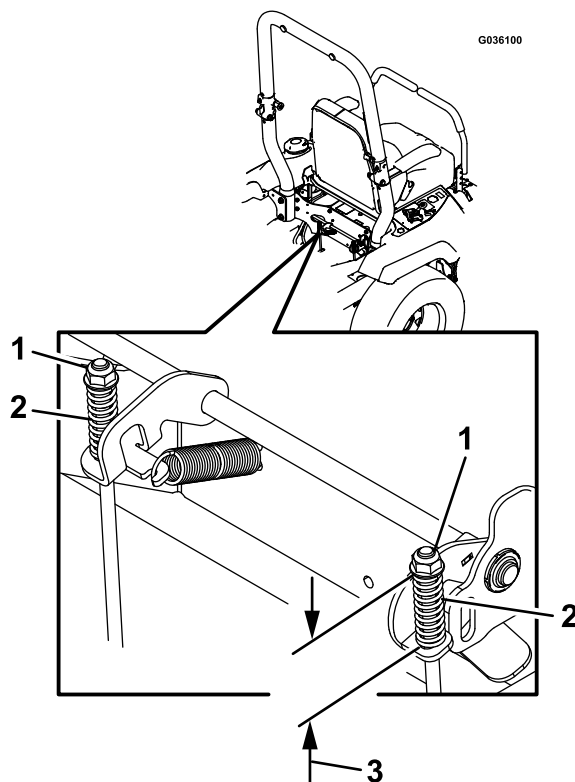

Figure 52
7. Check both spring lengths as shown in Figure 52. If an adjustment is necessary, turn the top nut clockwise to shorten the spring and counterclockwise to lengthen it.